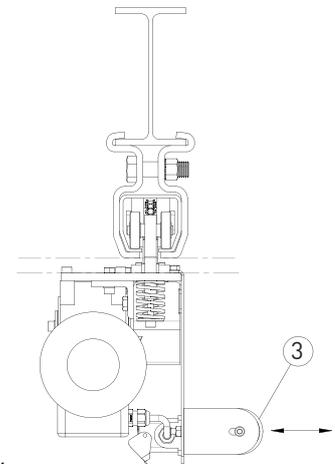

Figure 4.
STEP 6: Regulate the balance weight (f/n 3) until the trolley's driven base is parallel to the track profile. See Figure 4.